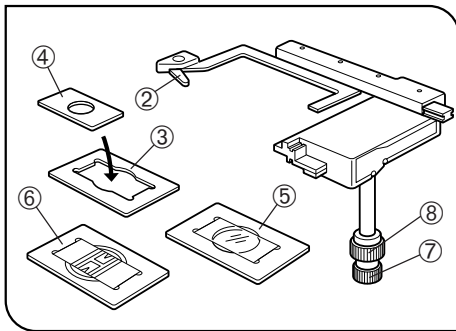

Fig. 7
1. When using a 96-well or 24-well micro-titer plate, extend the specimen holder ② to directly hold the micro-titer plate. (Fig. 7)
- Terasaki holder ③ (AB4488): For Terasaki plate, 35 mm petri dish holder ④ or 65 mm petri dish.
- Slide glass holder ⑤ (AB4489): For slide glass, 54 mm petri dish.
- Blood cell test plate holder IX2-BCTP ⑥ (optional): For a blood cell test plate holder or other calculating chamber for bacteria and eosinophil with mounting section dimensions corresponding to  $H 77^{+0.3}_0 \times V 35^{+0.3}_0 \times D 2$  mm, or for a 60mm petri dish.
3. The specimen can be moved to the desired position by turning the X-axis knob ⑦ and Y-axis knob ⑧ (Stroke: 120 mm in X-axis direction, 78 mm in Y-axis direction).